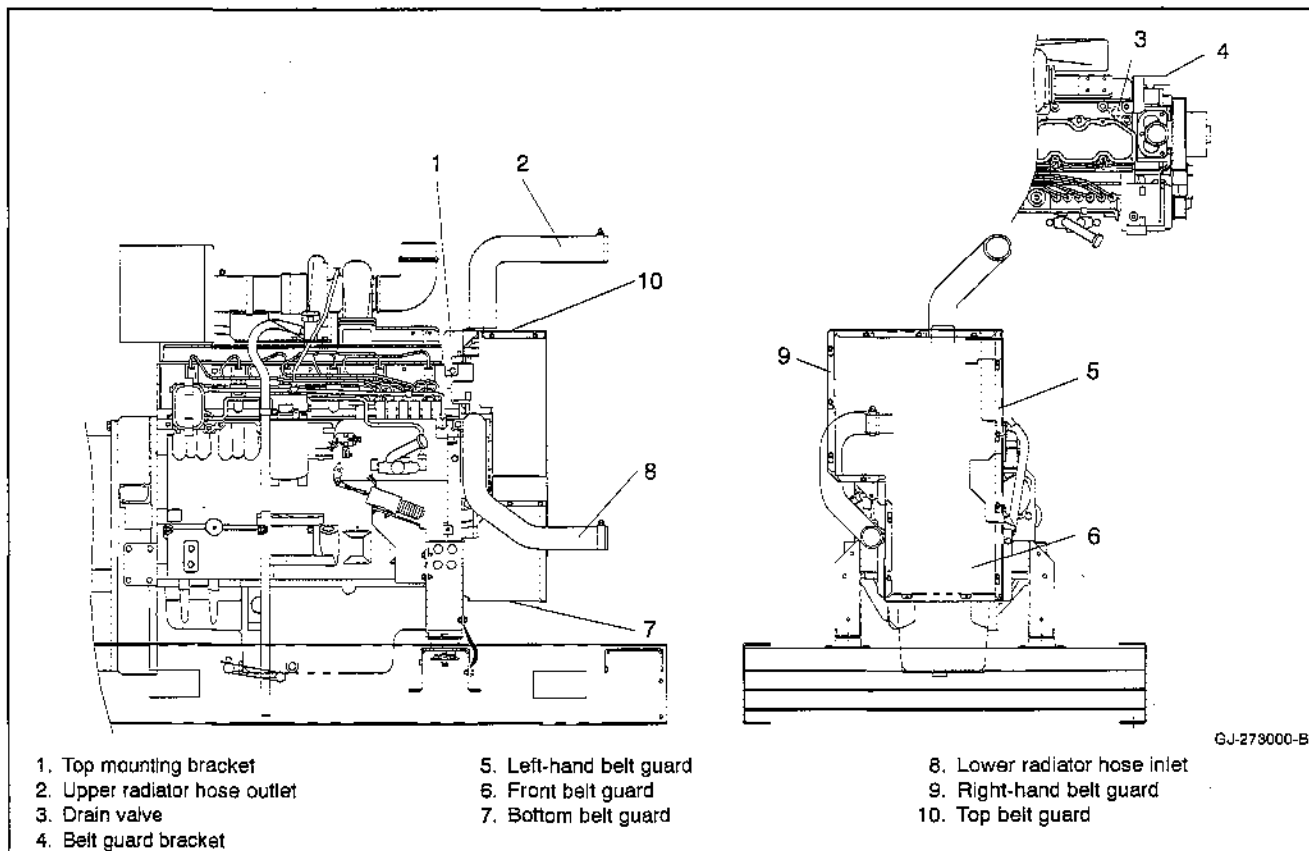

Figure 4-11 Remote Radiator Setup Kit, Typical
- Use a remote radiator setup kit to aid installation. See Figure 4-11.